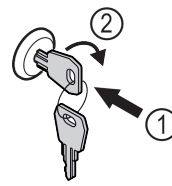

Fig. 103 Example illustration
- ▶ Insert key Fig. 103 (1).
- ▶ Turn key clockwise by 90° Fig. 103 (2).